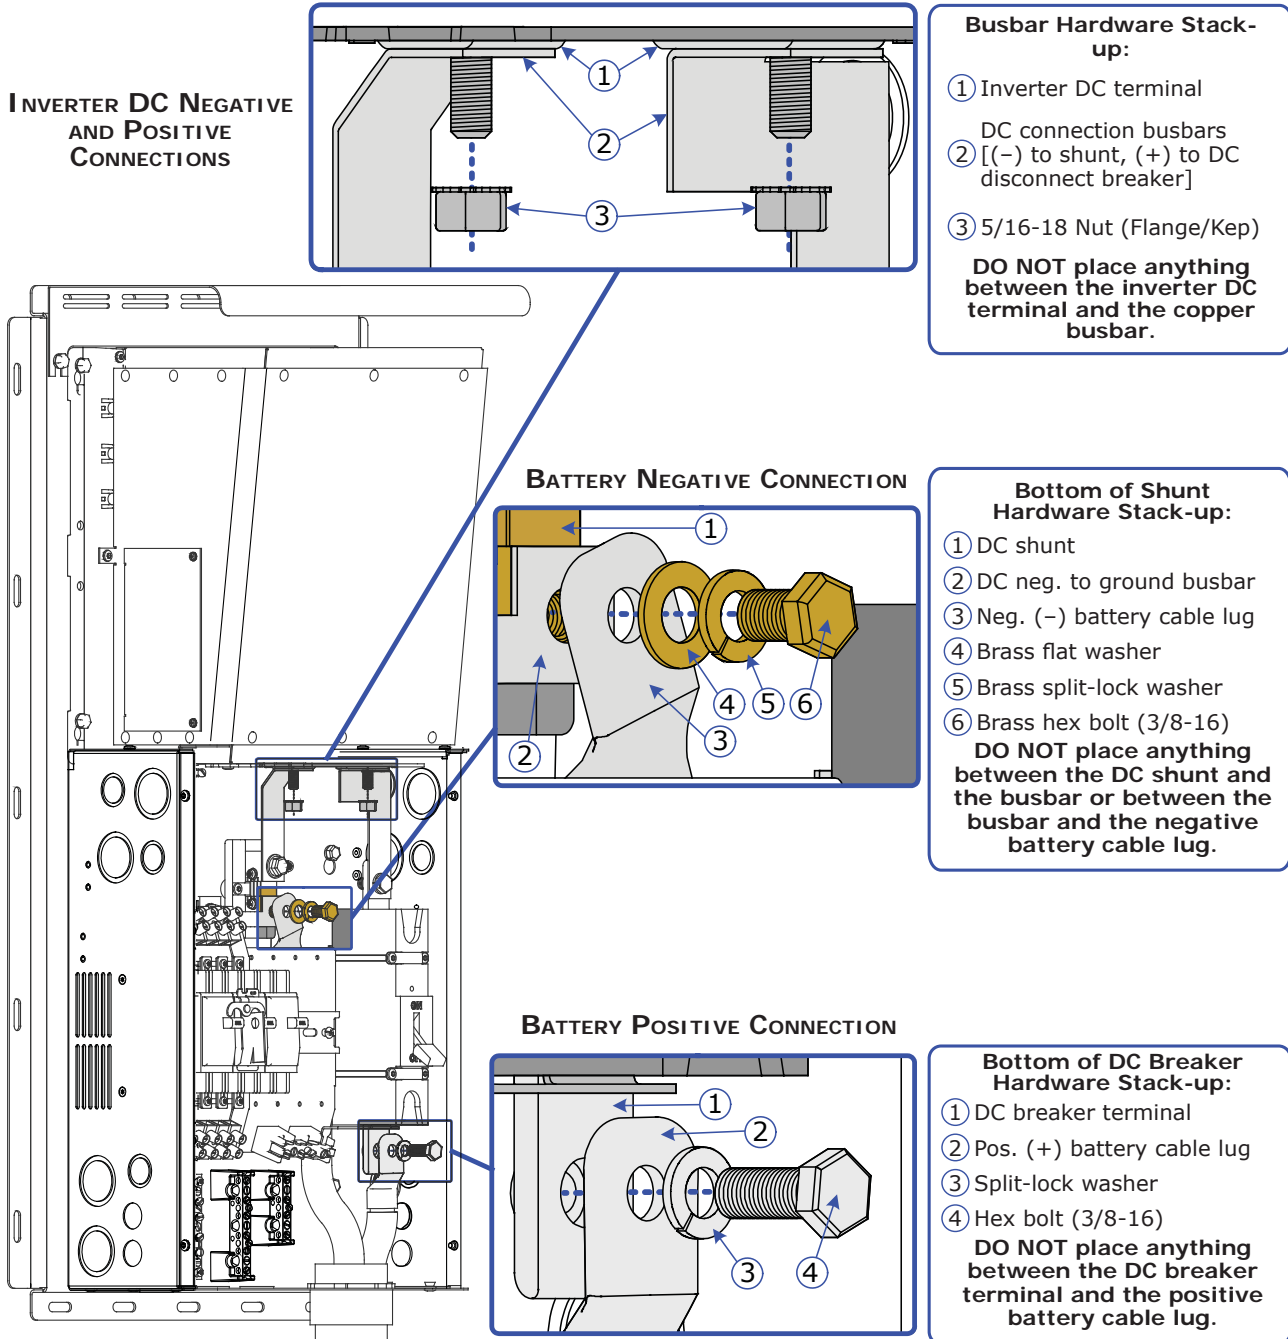

Figure 2-9, DC Connections – with Magnum Inverter Installed
The DC wiring for the MMP enclosure is further detailed in Figure 2-9. This diagram should be reviewed to assist in wiring the DC circuits, however, it is not intended to override or restrict any national or local electrical codes. This drawing should not be a determining factor as to whether the installation is compliant, that is the responsibility of the electrician and the onsite inspector.
Follow Figure 2-9 to connect the DC cables and stack the hardware correctly.
3. Ensure the DC wire connections (on the batteries, inverter, DC circuit breaker, and DC shunt) are flush on the surface of the DC terminals and the hardware used to hold these connections are stacked correctly (see Figure 2-9); and then securely tighten these DC connections. Only after the entire installation is complete and all connections are verified should the DC circuit breaker be closed to provide power to the inverter.